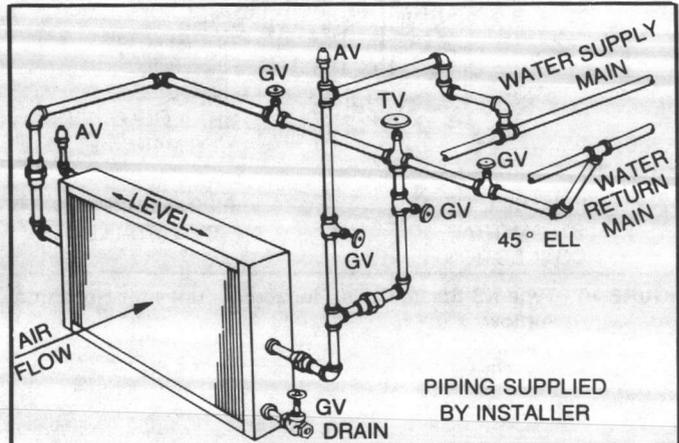

FIGURE 17 - Type W or WA, 1-Row Water Coil
Refer to Figures 17 to 20.
- a. Install an air vent in the top pipe plug tapping of the return header. See Figure 17.